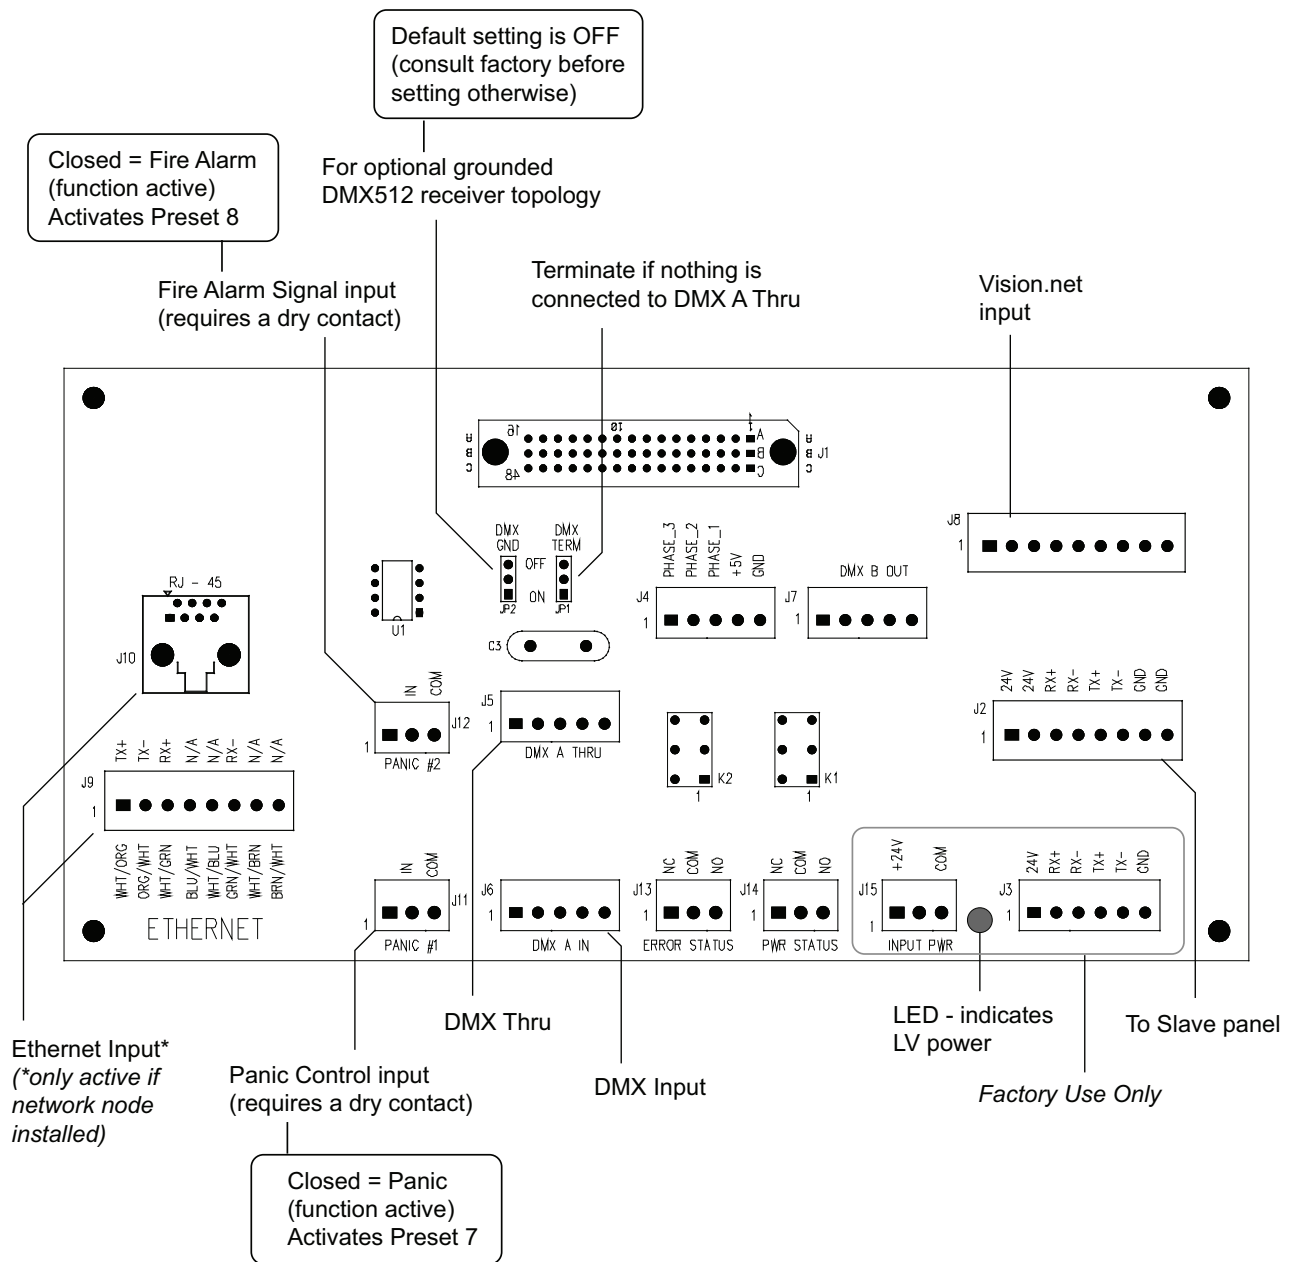

Figure 8: Control PCB
- Step 6. Connect wiring to appropriate location on Control PCB. See **Figure 8** on the following page.